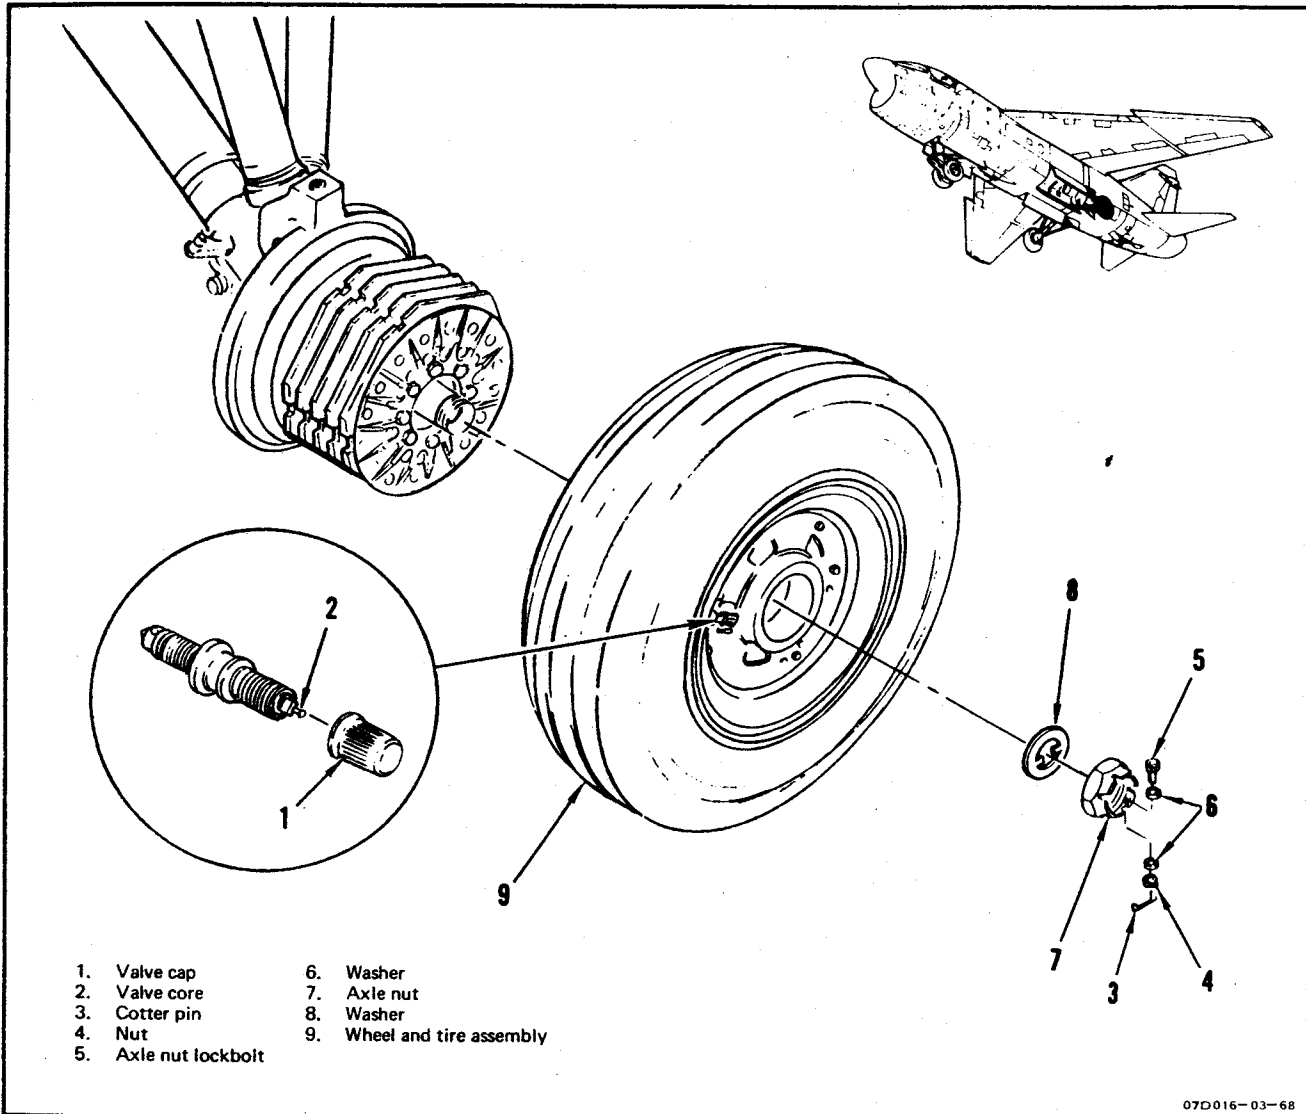

Figure 1-17. Main Gear and Tire Installation
**1-63. REMOVAL. (See figure 1-17.)**
c. Remove T-handle filler adapter and remove valve core (2).
d. Remove cotter pin (3), nut (4), axle nut lockbolt (5), and washers (6).
e. Using torque wrench adapter, remove axle nut (7) and washer (8).
f. Remove wheel and tire assembly (9) from axle.
**1-64. INSTALLATION. (See figure 1-17.)**